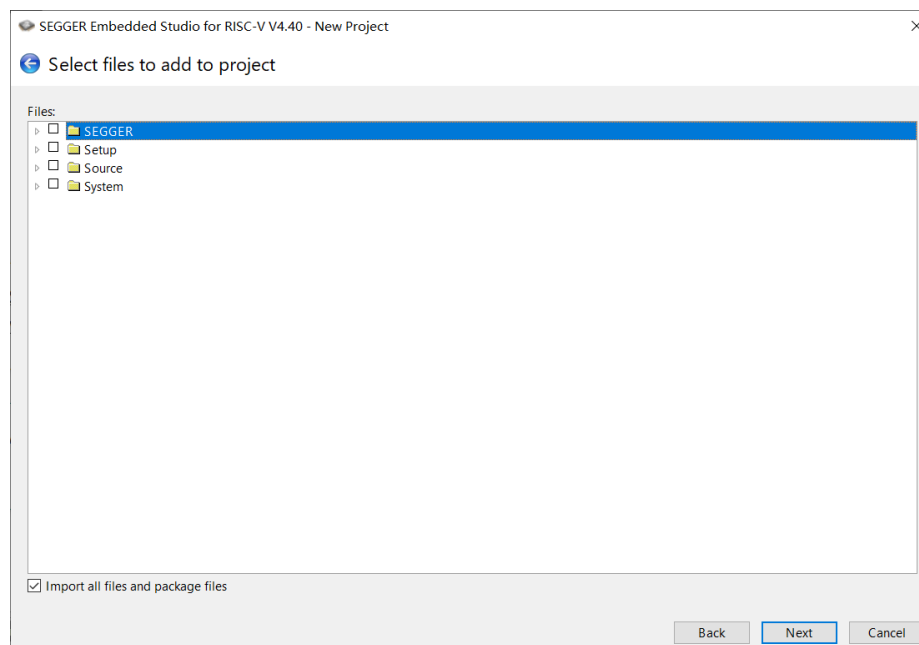

Figure 2-9 Add Default Files
- Set to add default files, as shown in Figure 2-9. In this step, uncheck all files, and then click next.